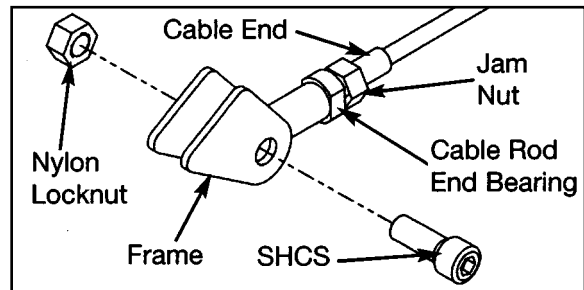

Figure 7
**2. Rod End Adjustment** - This type of adjustment contains a socket head cap screw (SHCS) securing a cable rod end bearing to the machine. Primary adjustment is by returning cable usually contains a roll pin cable adjustment. See Figures 7 and 8.